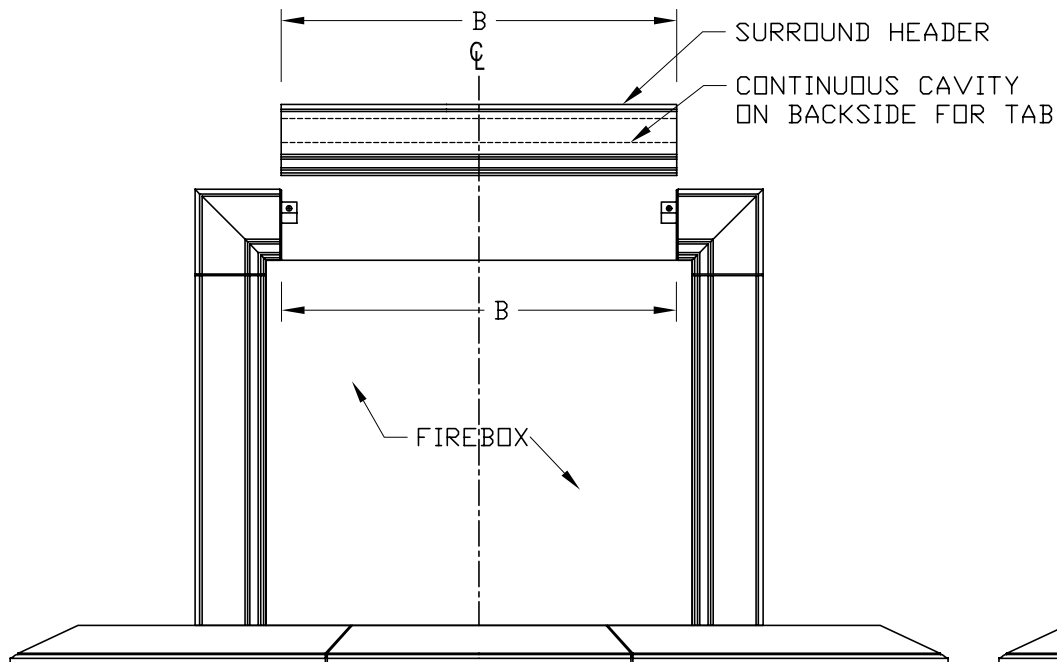

Fig. 1-3
- (a) Measure req'd header width 'B' (Fig 1-3). Mark & cut bolexion header to this measurement. Apply generous/continuous bead of construction adhesive to face of wall where back of header will contact and top face of tabs on leg surrounds.